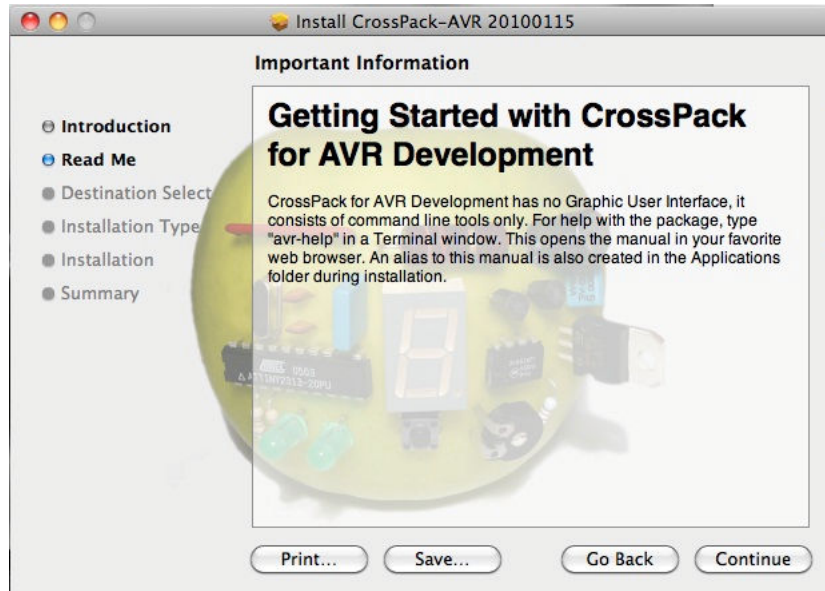

Figure 4 - CrossPack Installation Initial Screen
3. Connect the ISP cable to the ISP connector on the PC board. Make sure pin 1 on the ISP plug (red stripe) is lined up with pin 1 on the PC board (see figure 4).